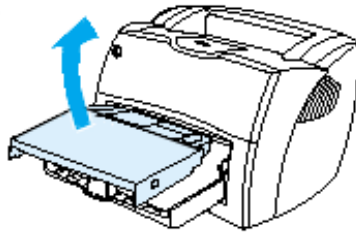

Figure 7. Removing the Media Tray
8. Remove the printer media tray as shown in Figure 7.